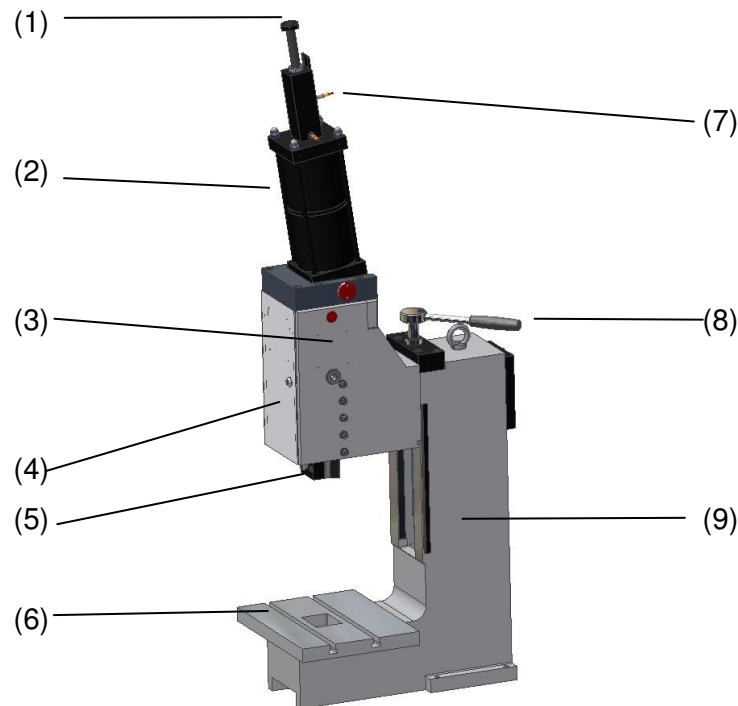

Fig. 1 Overview linear acting pneumatic presses
- ▶ The door at the front of the guide unit (→ Fig1, (4)) must always remain closed when operating the press!